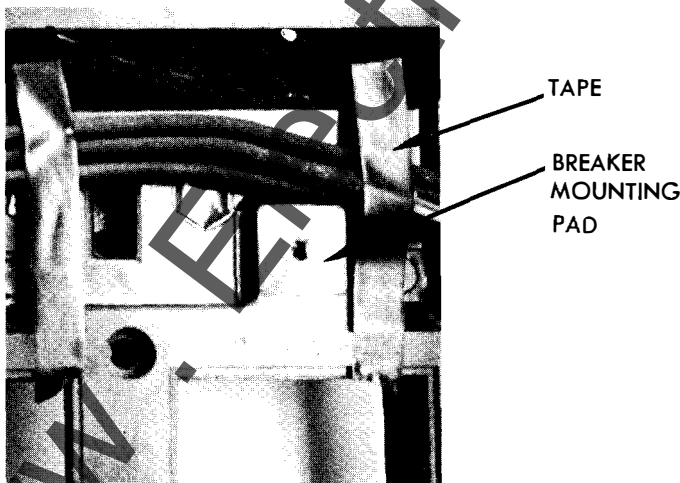

Fig. 9. View, back of breaker
*NOTE: If the breaker was removed from its supporting structure, use tape to hold the wires in the wiring channel, as shown in Fig. 9, to ensure that no wires are pinched under the breaker mounting pads.*
4. Insert the wires and flexible sleeving from the blown-fuse trip device through the knockout hole in the breaker base and along the back for attachment as desired. See Fig. 9.
**NOTE:** If the breaker was removed from its supporting structure, use tape to hold the wires in the wiring channel as shown in Fig. 9, to assure that no wires are pinched under the breaker mounting pads.